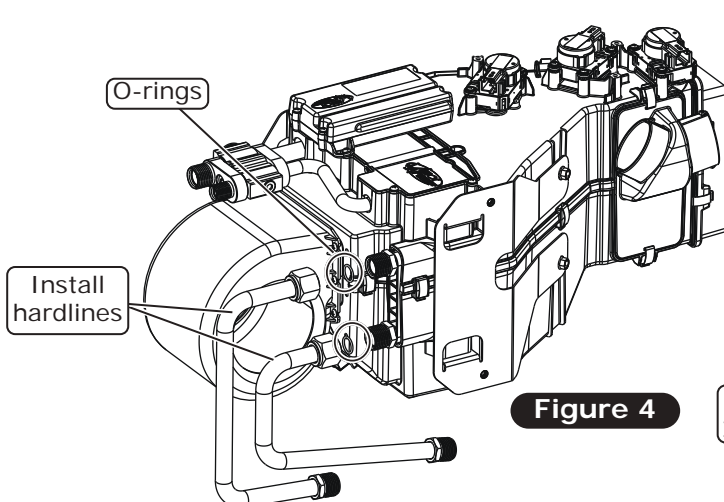

Figure 4
7. Install the hardlines with properly lubricated O-rings (See Lubricating O-rings, Page 13, and Figures 4 and 5, below).